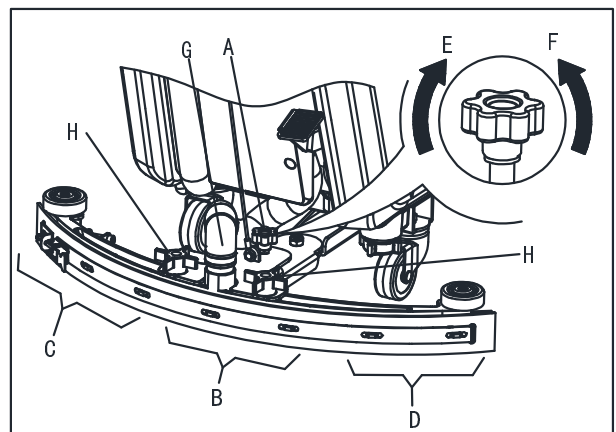

Figure 6
1. Install the squeegee and screw up the nut (H), then connect the vacuum hose (G) to the squeegee.
2. Adjust the squeegee by squeegee adjusting handle (A, Figure 6).
- a) If there is gap between the ground and middle section of rear squeegee blade (B), adjust the knob (A) in counterclockwise direction (F) until all sections of rear squeegee blade make contact with ground, the front blade touch the ground slightly.
- b) If there is gap between the ground and both end section of rear blade (C and D), adjust the knob (A) in clockwise direction (E) until all sections of rear blade make contact with the ground, the front blade touch the ground slightly.